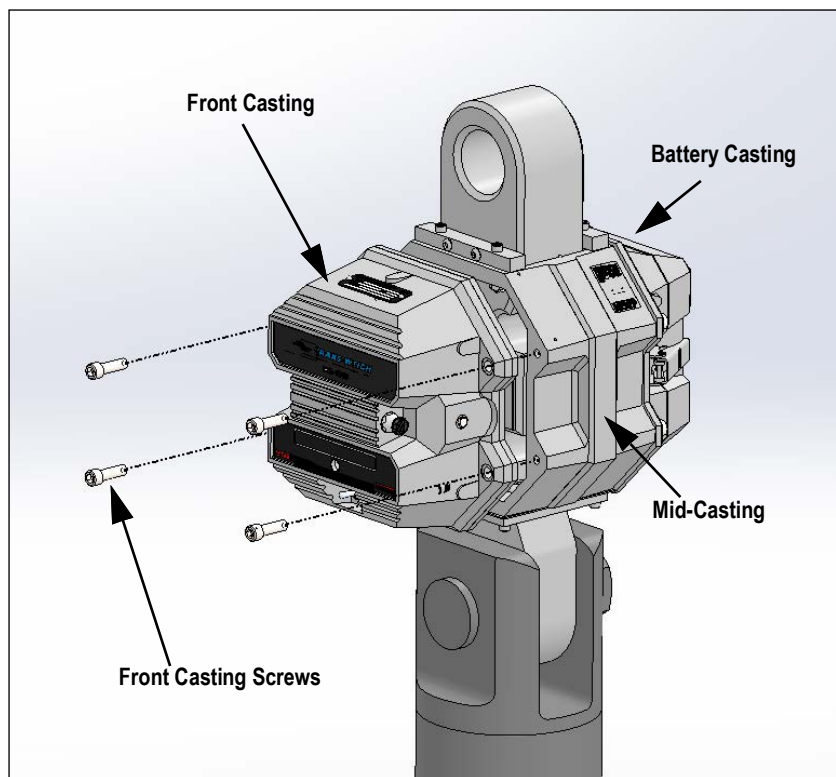

Figure 2. Front Casting Removal
2. Remove the front casting by loosening the screws securing it. See Figure 2.
3. Place the front casting assembly on mid-casting assembly and secure with the supplied 3/8 inch drive head screws, torqued to 20–25 ft-lbs (see Figure 2 on page 2).